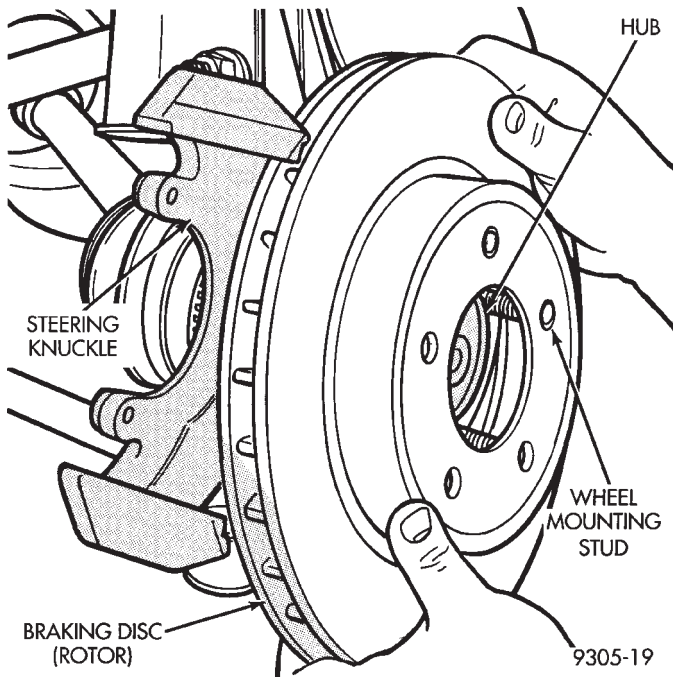

Fig. 2 Removing Braking Disc
(4) Remove front braking disk (rotor) from hub, by pulling it straight off wheel mounting studs (Fig. 2).